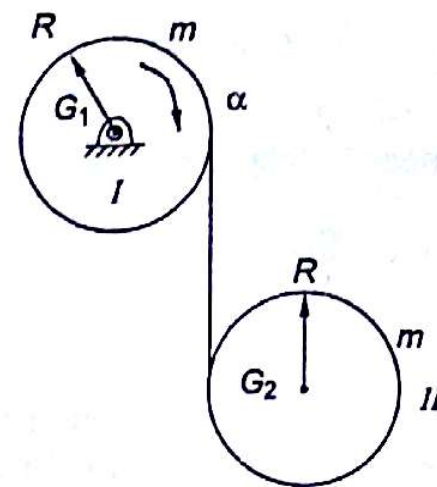

Fig. 18.19
- 18.4 A string is wound over two uniform discs of radius R and mass m as shown in Fig. 18.19. System is released from rest. If angular acceleration of disc I is α , what is angular acceleration of disc II?